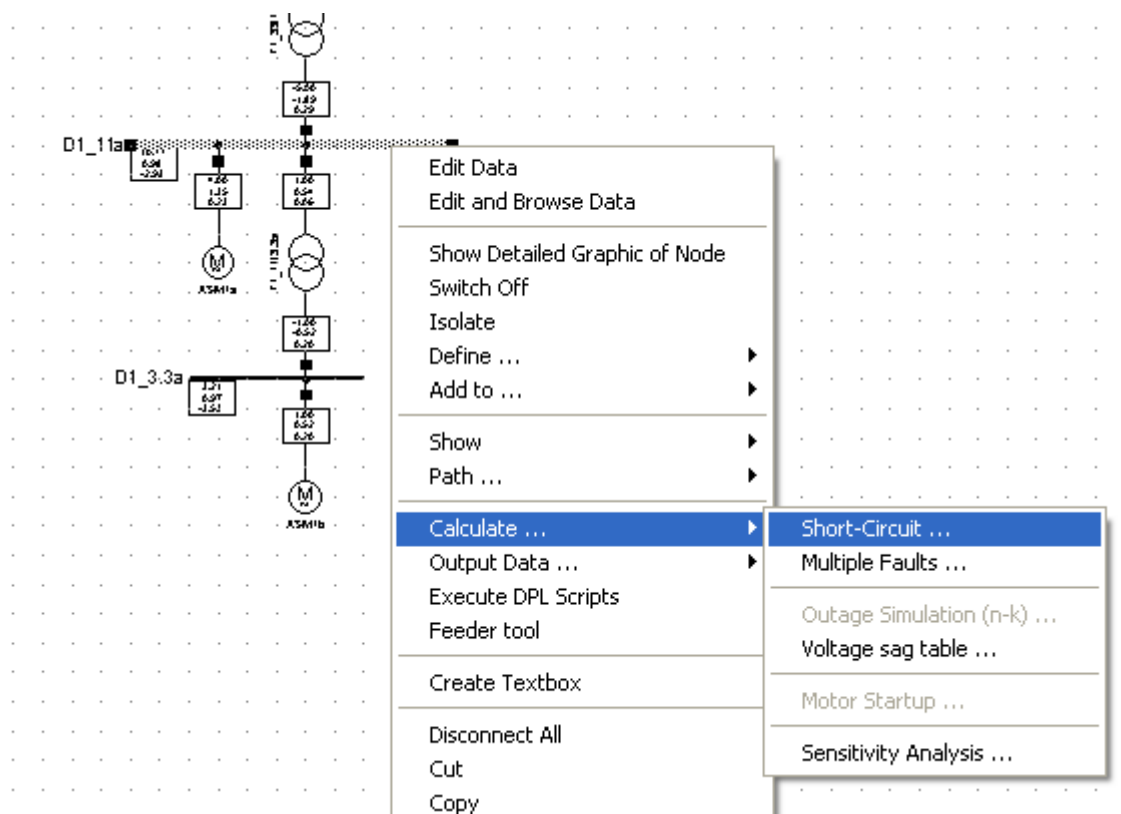

Fig. D.14: Starting a short-circuit calculation from the single line graphic
- ▶ Right click the 11 kV busbar "D1_11a", and select the *Calculate --> Short-Circuit* option as shown in figure D.14.